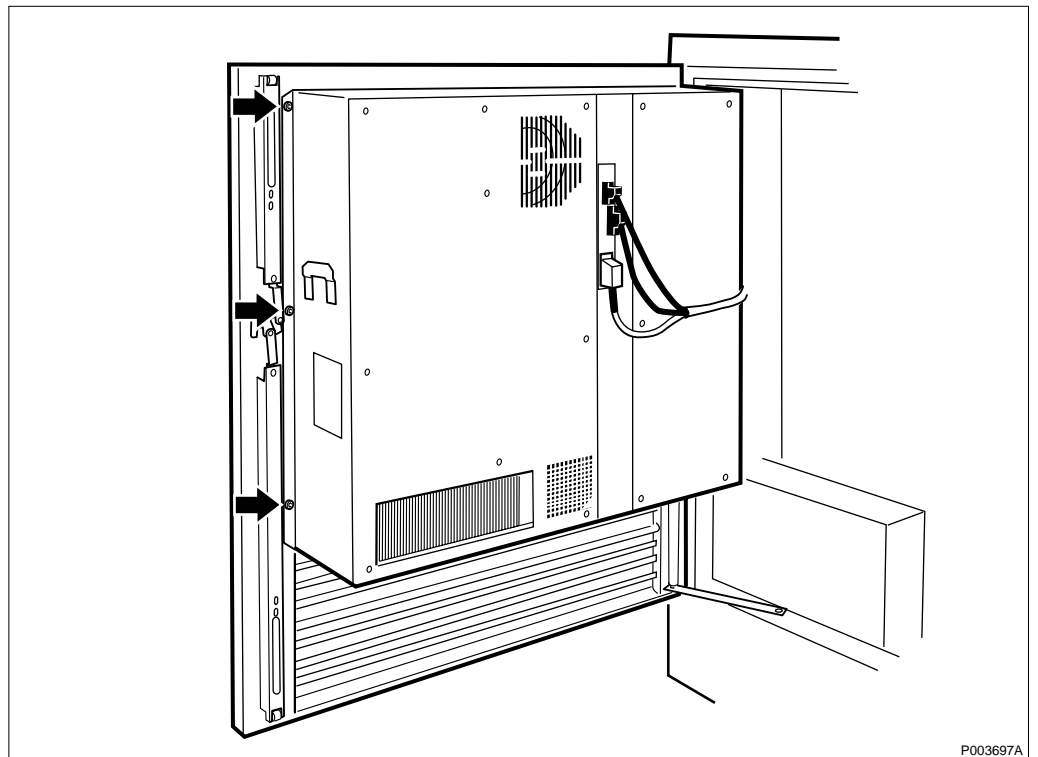

Figure 137 Opening the climate unit
5. Loosen the three screws on the left side that hold the climate unit onto the door. See Figure 137 on page 255.